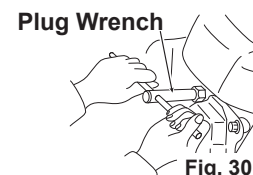
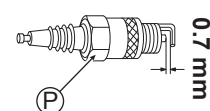

Fig. 30
Fig. 31
- Remove Ignition plug (P) with the attached plug wrench. (See Fig. 30)
- Exchange Ignition plug (P) if a great amount of carbon is adhered to it or its insulator is cracked or damaged.
- Remove the carbon adhered to the electrode, and adjust the electrode clearance to 0.7 mm. (See Fig. 31)
- Install Ignition plug (P) and Plug cap (Q).